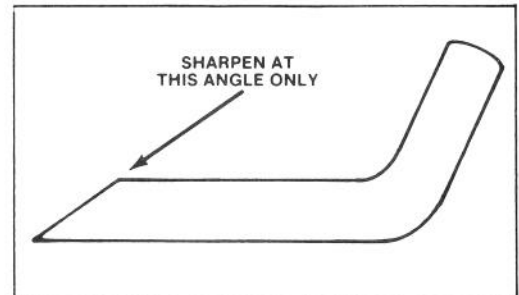

Figure 13
6. SHARPENING BLADE — Using a file, sharpen top side of blade and maintain original cutting angle (Fig. 13). The blade will remain balanced if same amount of material is removed from both cutting edges.